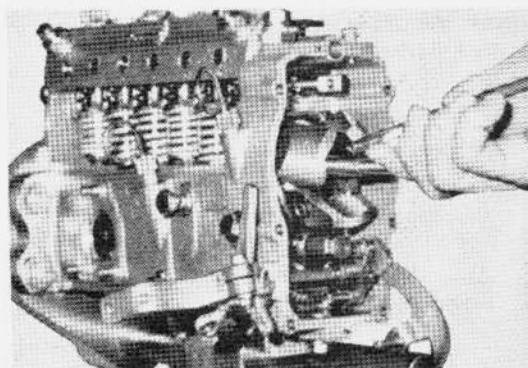
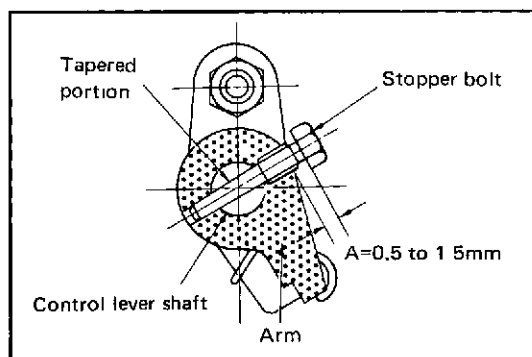

Fig. 3-164 Snap Washer Removal
Fig 3-174 Arm Installation
Remove the snap washer (85) securing the flyweight as per Fig. 3-164, and pull out the flyweight (86).
f. As illustrated in Fig. 3-174, the arm is installed onto the control lever shaft with the stopper bolt (tapered). When tightening the stopper bolt, the A clearance should be 0.5 to 1.5 mm (0.0197 to 0.059") as per Fig. 3-164. (Lock washer is not utilized at this portion, and is secured by the taper.)